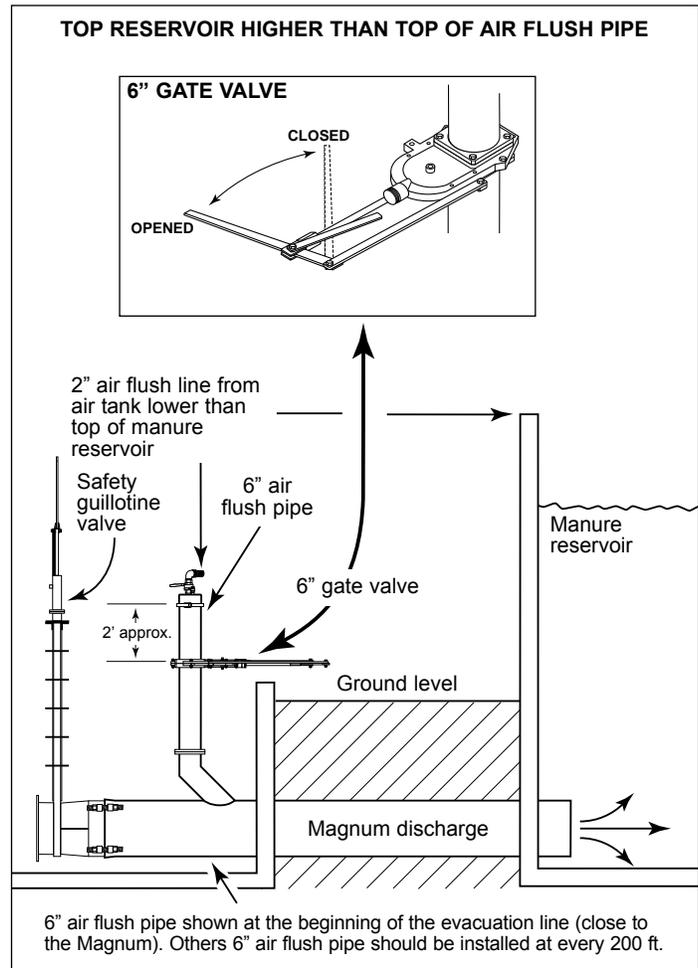

Fig.6
When the manure reservoir is higher than the top of air flush pipe, it is mandatory to install a 6" gate valve to prevent liquid from flowing back when the cap is removed -fig.6. J. Houle & Fils Inc. recommends to flush the evacuation line every day with air pressure only and every week with air and straw.
3. Close the 6" gate valve -fig.6;
10. Open the 6" gate valve -fig.6;
13. Close the 6" gate valve -fig.6;